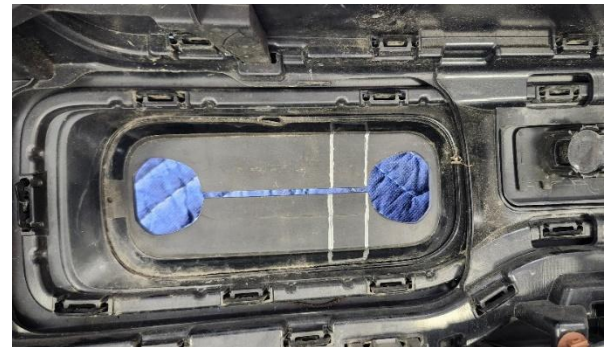

**Figure 24**
1. If equipped with factory tow hooks, remove the 4 bolts securing the tow hook on each side. (Figure 24; Drivers side shown, repeat for passenger side)